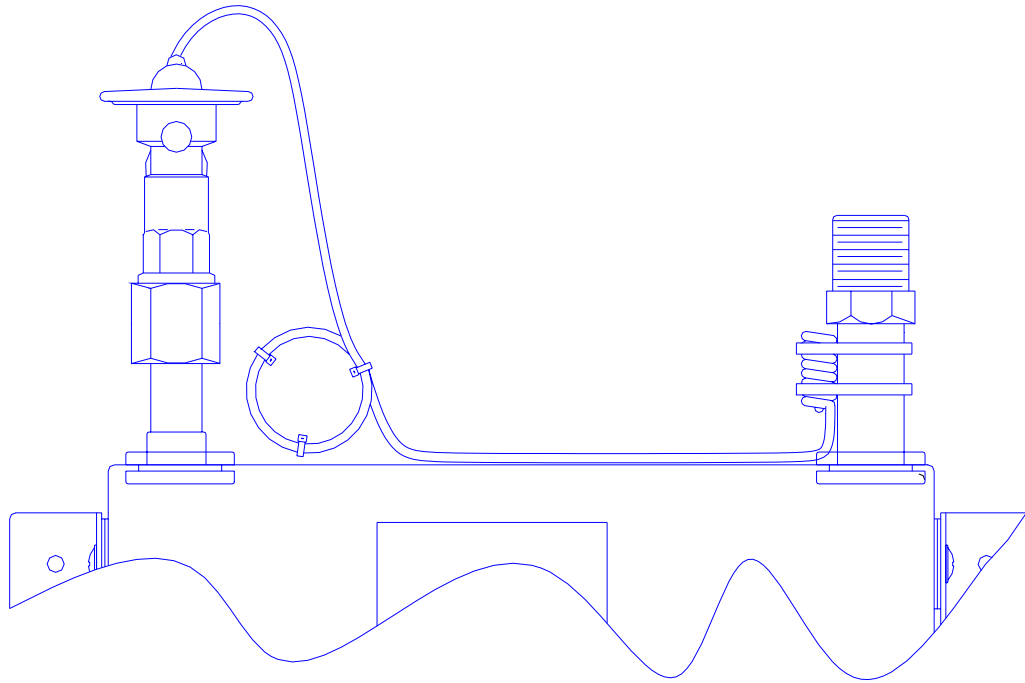

Figure 3
9. Install the thermal sense bulb such that it makes contact with the suction tube along its entire length with two or more cable ties as shown in Figure 3.